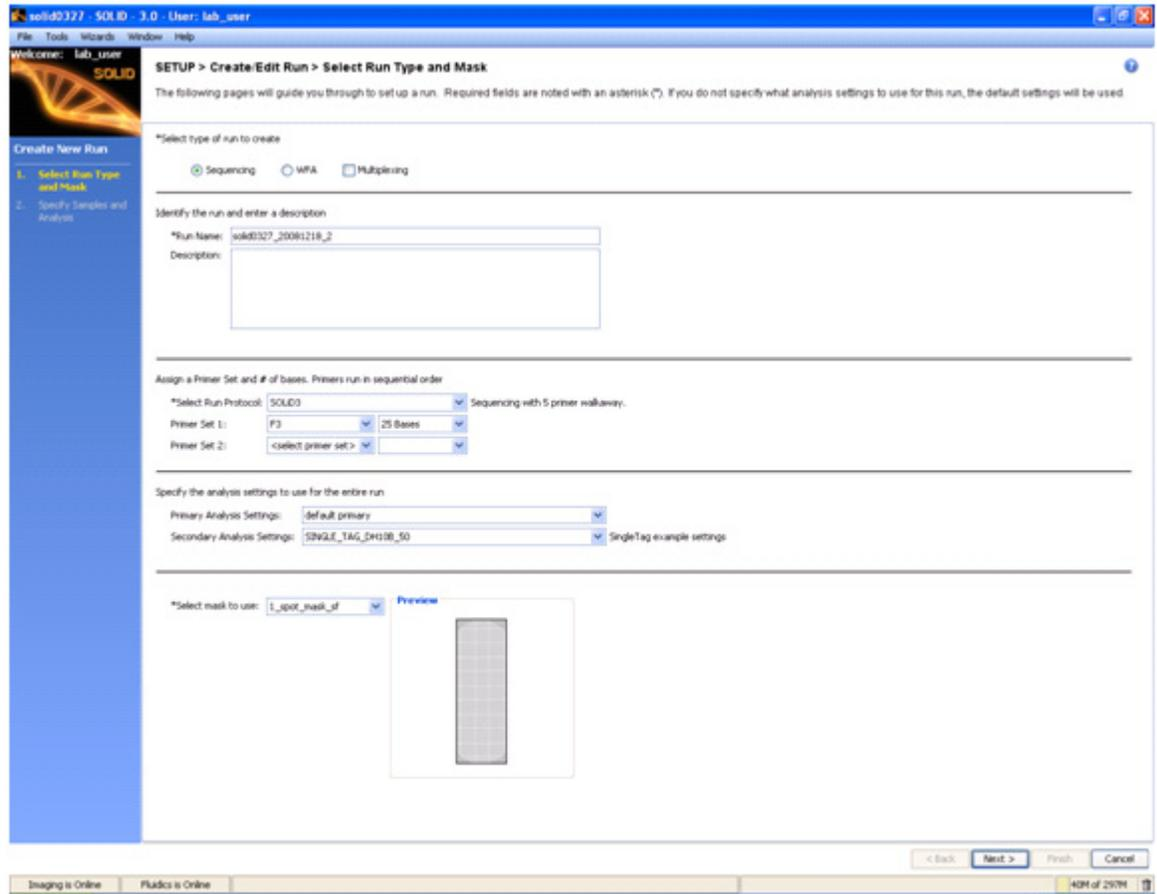

Figure 44 Complete the information in the Select Run Type and Mask pane.
2. Complete the information in the Select Run Type and Mask pane (see Figure 44 on page 61):